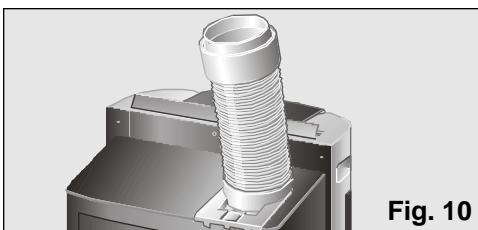

Fig. 10
- Remove the diffusion duct and set the air expulsion tube to the position shown in **fig. 10**.